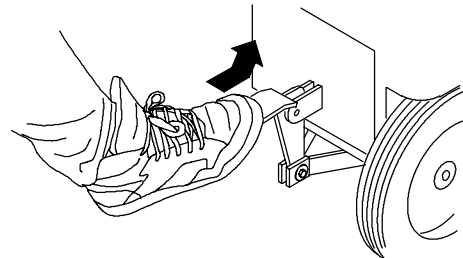

FIG. 8.
- Lower dispenser assembly to floor. Push pedal forward to release from transport position (Figure 8.).